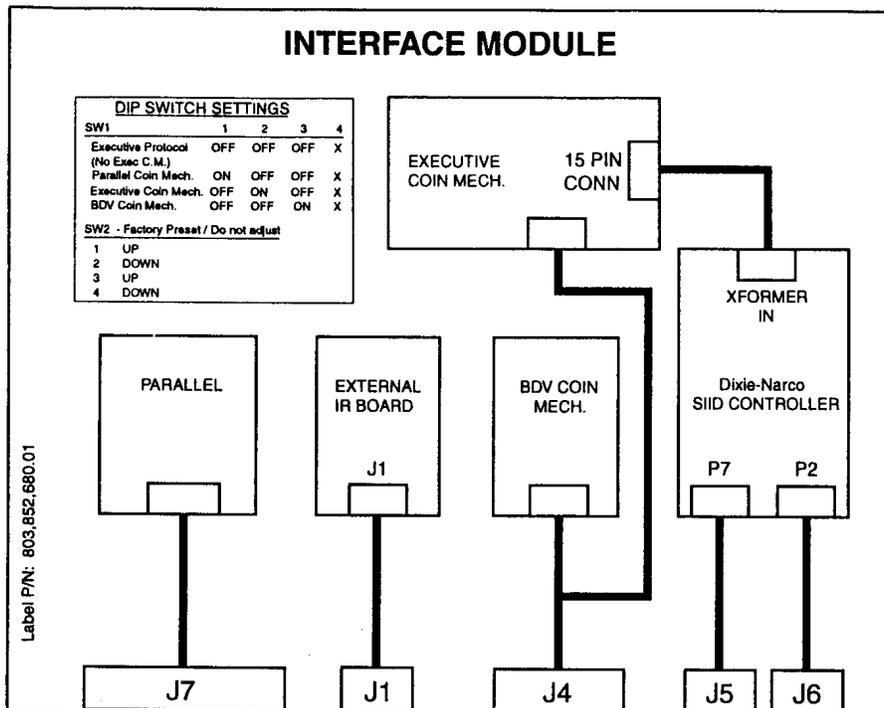

FIGURE 3
Also Executive interfaces to the control board via 15 pin connector. See figure 3, page 2.
8. Locate two sets of dip switches on the Interface Module. Switch 2 is factory set – Do not adjust. Refer to figure 3 for switch 1 settings as they relate to the different coin mechs that can be used.